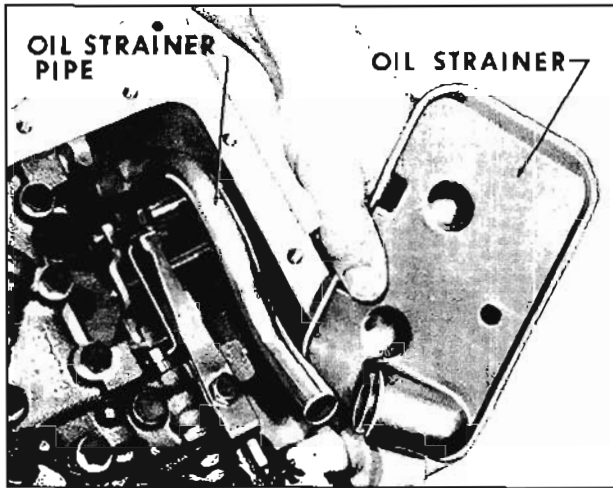

Fig. 6-471 Installing Oil Strainer
15. With a turning motion, install oil strainer to oil strainer pipe. (Fig. 6-471)